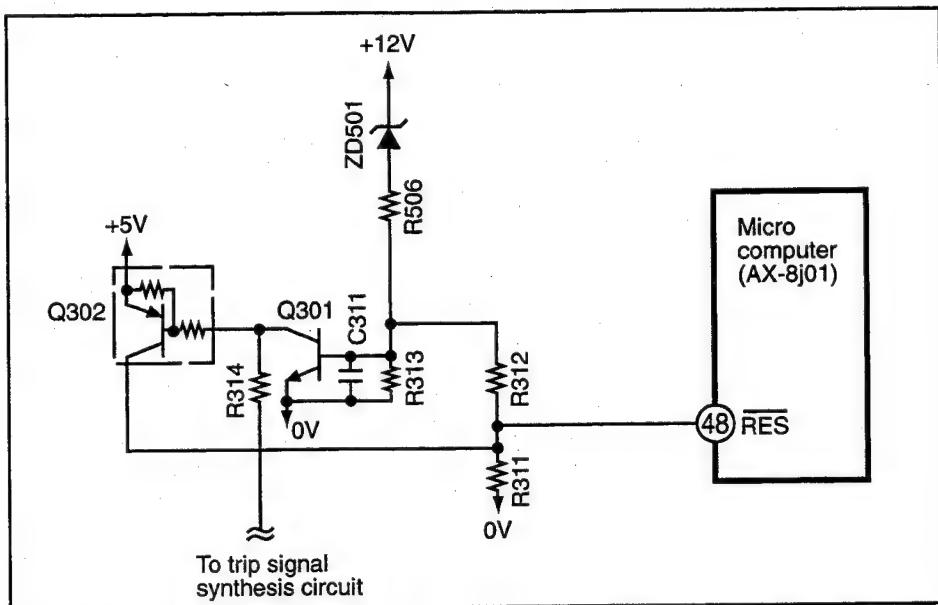
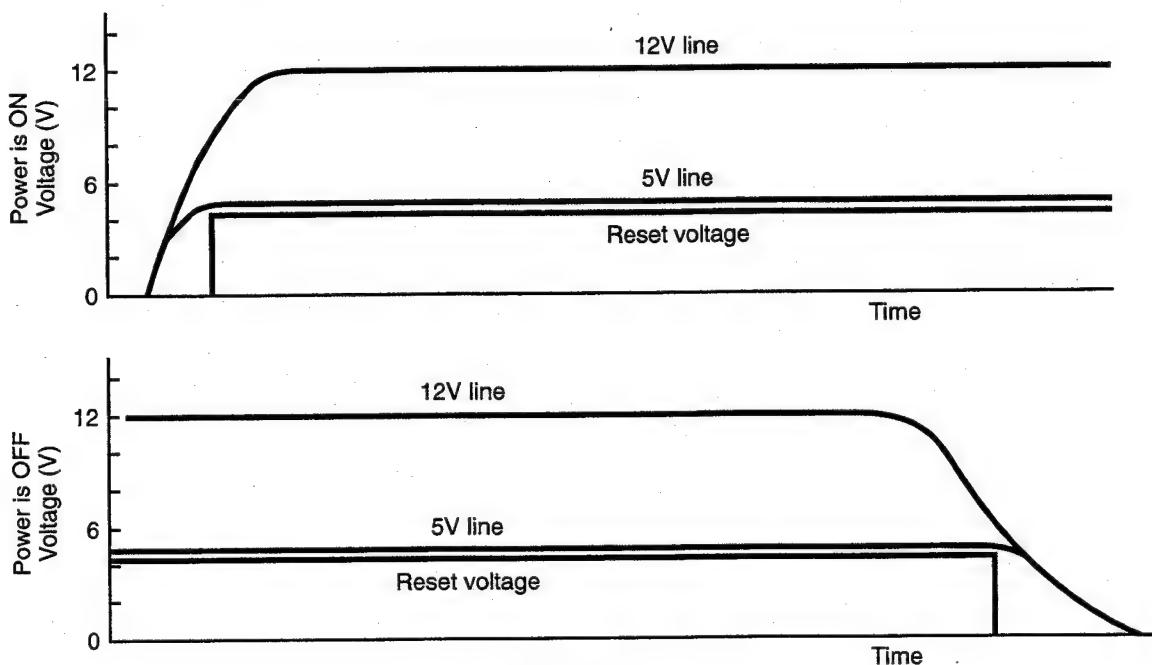

Fig. 11-1
Fig. 11-2
- Fig. 11-1 shows the reset circuit and Fig. 11-2 shows waveform at each point when power is turned on and off.